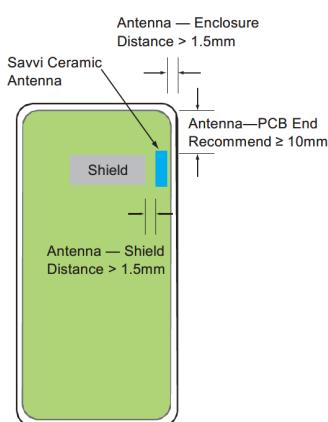

Figure 6
In order to create an optimized layout for the antenna, one must first understand the Savvi ceramic antenna's unique characteristics, which enable it to offer superior performance. The antenna's performance behavior is controlled by many variables in the surrounding environment. Ethertronics' technical team has determined that several rules are important to take into account when designing a product using this antenna, see Figure 6 below:
4. The distance from the antenna to relatively large perturbations, such as a nearby shield or large components, is referred to as **"Antenna - Shield" distance**. This distance is dependent on the height of surrounding components, but should not be less than 1.5mm. See Figure 6.